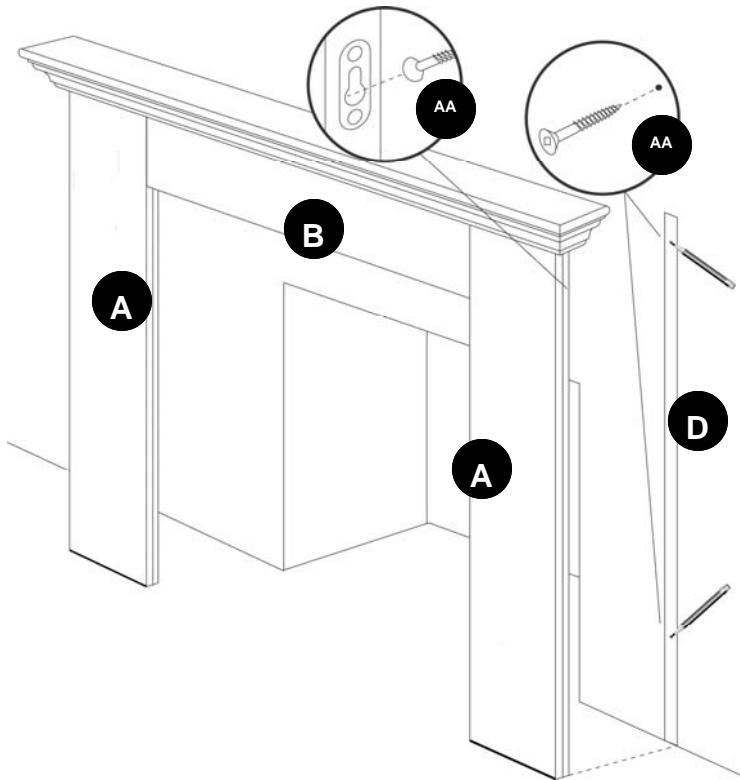

Fig. 4
Using the included template (D), level and mark the position of the screws (holes) on the wall. Remove the template (D) and install screws (AA) (or hollow wall screws [BB]). Fix mantel (sold separately) and surround on the wall and tighten screws (AA), if needed. (figure 4)